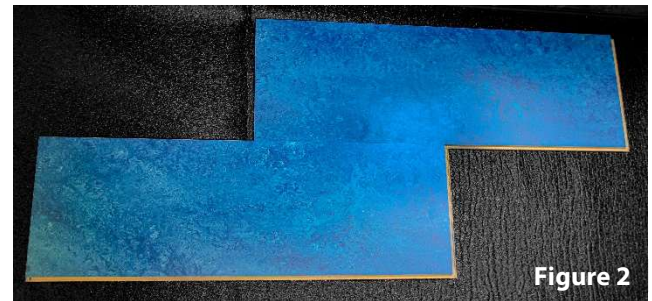

Figure 2
3. To ensure that all pieces are clicked together at exact 90° angles, install a temporary piece along the front wall (parallel with the material). Click the Tongue (A) of the first piece into the Groove (B) of the temporary piece, allowing the temporary piece to sit halfway on the first piece. See Figure 2. The temporary piece in the figure is the top piece.